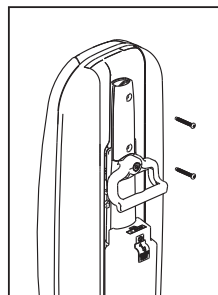

Fig. 1
4. Secure with two screws removed in Fig. 1. Tuck the cord into the space to the left of the handle.